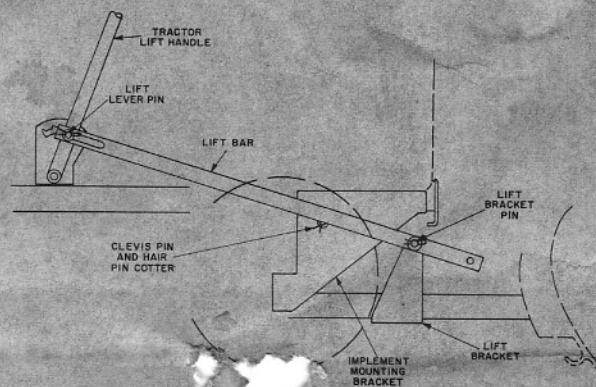

Figure 1
4. Attach slotted end of lift bar to tractor lift lever pin. Secure with washer and hair pin cotter. See Figure 1.